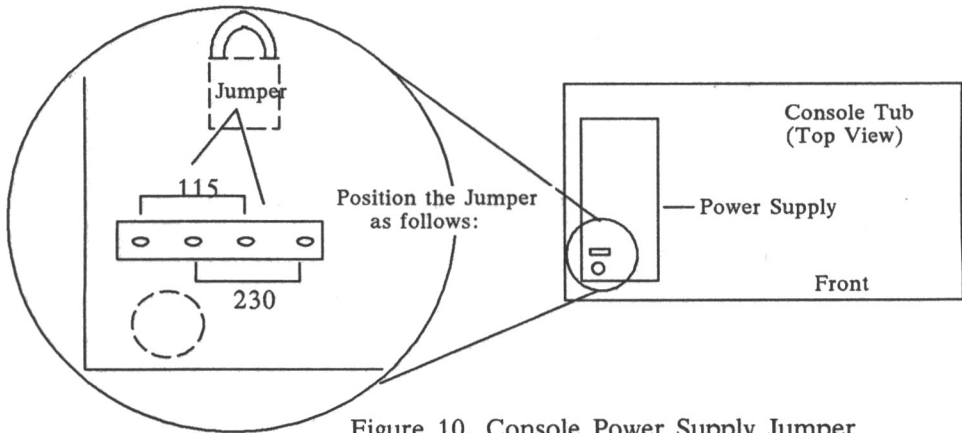

Figure 10. Console Power Supply Jumper
4. For 115 or 230 Vac operation, position jumper as shown in Figure 10.
Figure 10 illustrates the ADO 100 Signal System Rear Panel. The cable connections are listed in paragraph 7.1.